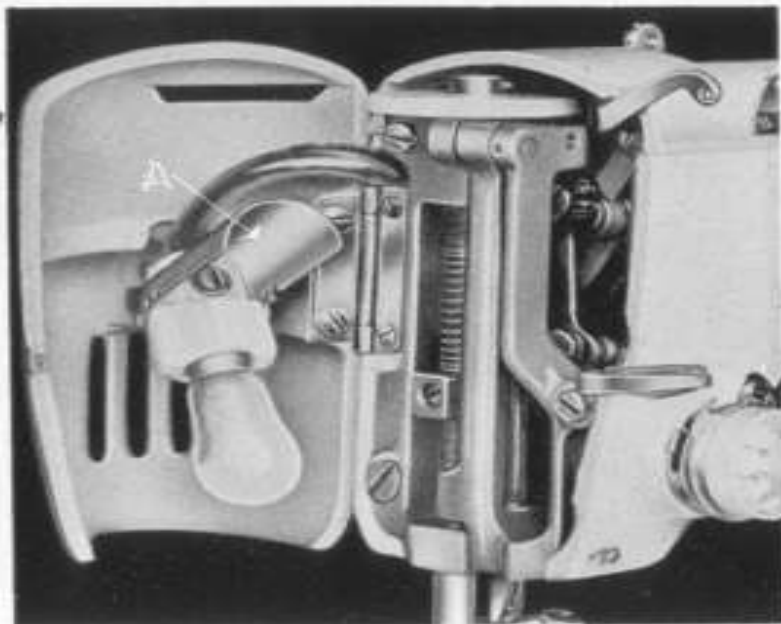

Fig. 40
By turning the switch (31) you can turn the sewlight on or off as you wish. To change the sewlight bulb open the Front Cover (5) by grasping it with your left hand and twisting it rearward, and open the sewlight reflector (A) by lifting it upward, as shown in Fig. 40. Now remove the bulb by unscrewing it and replace